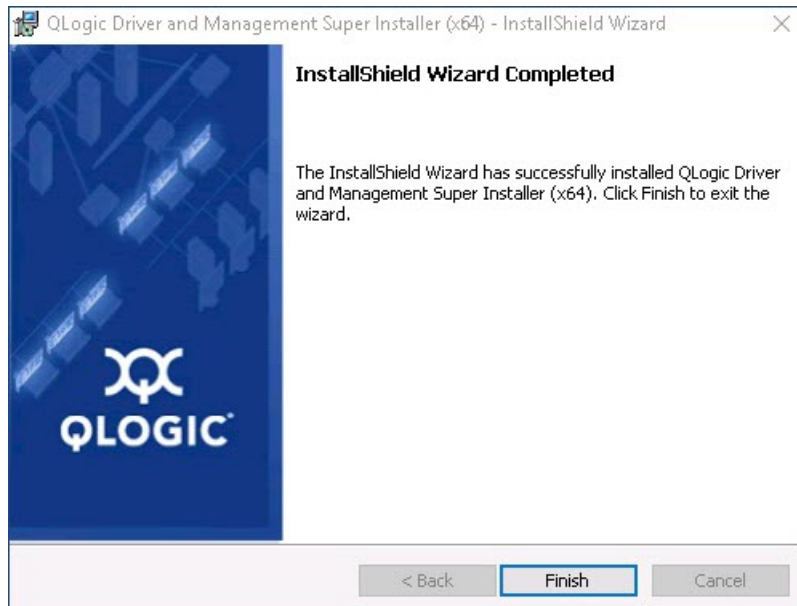

Figure 3-7. InstallShield Wizard: Completed Window
8. When the installation is complete, the InstallShield Wizard Completed window appears (Figure 3-7). Click **Finish** to dismiss the installer.